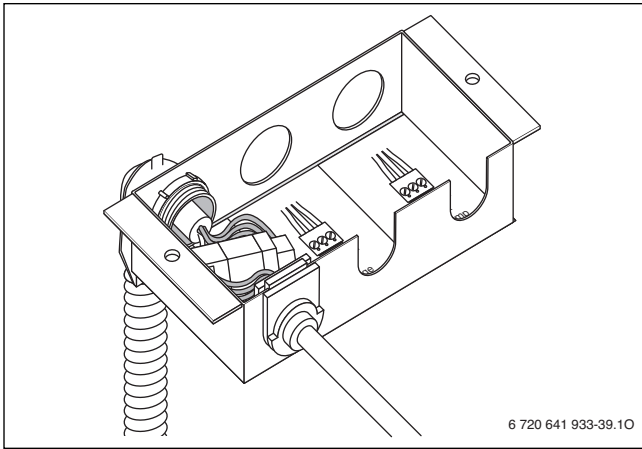

Fig. 59 Cable connected (mains power supply)
- ▶ Insert cable into the junction box as shown in Fig. 59.